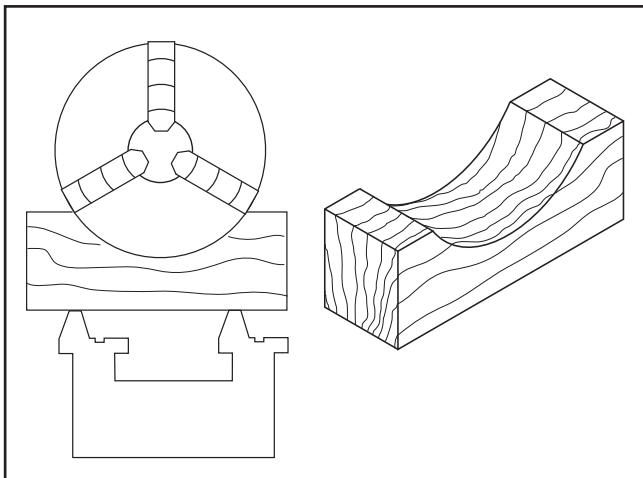

Figure 29. Simple chuck cradle made from scrap lumber.
2. Lay a chuck cradle (see **Figure 29**) or a piece of plywood over the bedways below the lathe spindle to reduce the risk of injury and to protect the precision ground surfaces of the bedway.